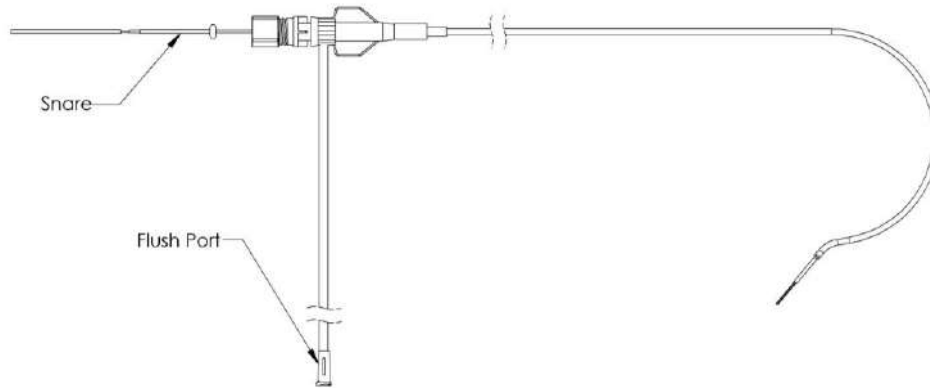

Figure 8: Primary Anchor Retrieval Catheter
- Primary Anchor Retrieval Catheter** – The Primary Anchor Retrieval Catheter (PARC) is a general purpose catheter used mainly to capture a Primary Anchor if for any reason it is not satisfactorily secured to the myocardium after deployment. The PARC is tracked within the TracCath to the unsecured Anchor. Once the catheter tip envelops the eyelet of the unsecured Anchor, the Cable is used to stow and draw the Anchor into the PARC lumen. Upon withdrawal of the PARC from the TracCath, the Anchor is removed from the body. The PARC catheter may also be used for Slider tensioning, to reduce friction on the Cable during TracCath removal, or for swapping of the Inner TracCath, as necessary. See Figure 8.